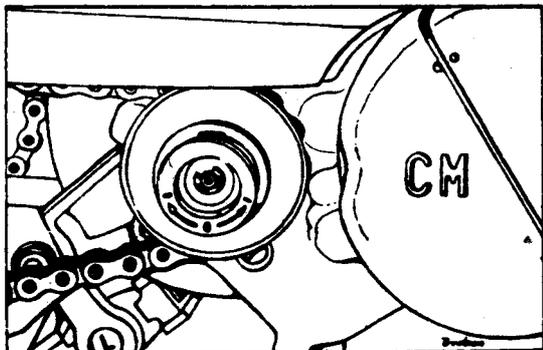

Fig. 9 – Engine drive disengaging mechanism
- h) Engine drive disengaging mechanism (Fig. 9)
If you intend to use the moped as a bicycle, (after using up the fuel) pull the driving lug (in the direction away from the engine) and rotate it 90 degrees clockwise or counter clockwise, and then release it (Fig.9). The driving lug will remain engaged in this position and the drive is not transmitted from the engine to the rear wheel.